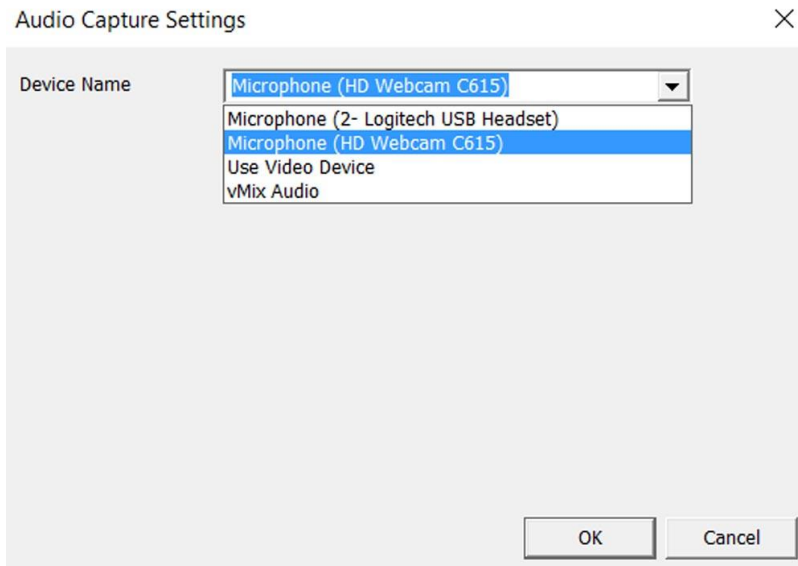

Figure 25 – The AUDIO Capture screen allows you to select the Audio device.
- The AUDIO CAPTURE Settings screen shown in **Figure 25** should appear.